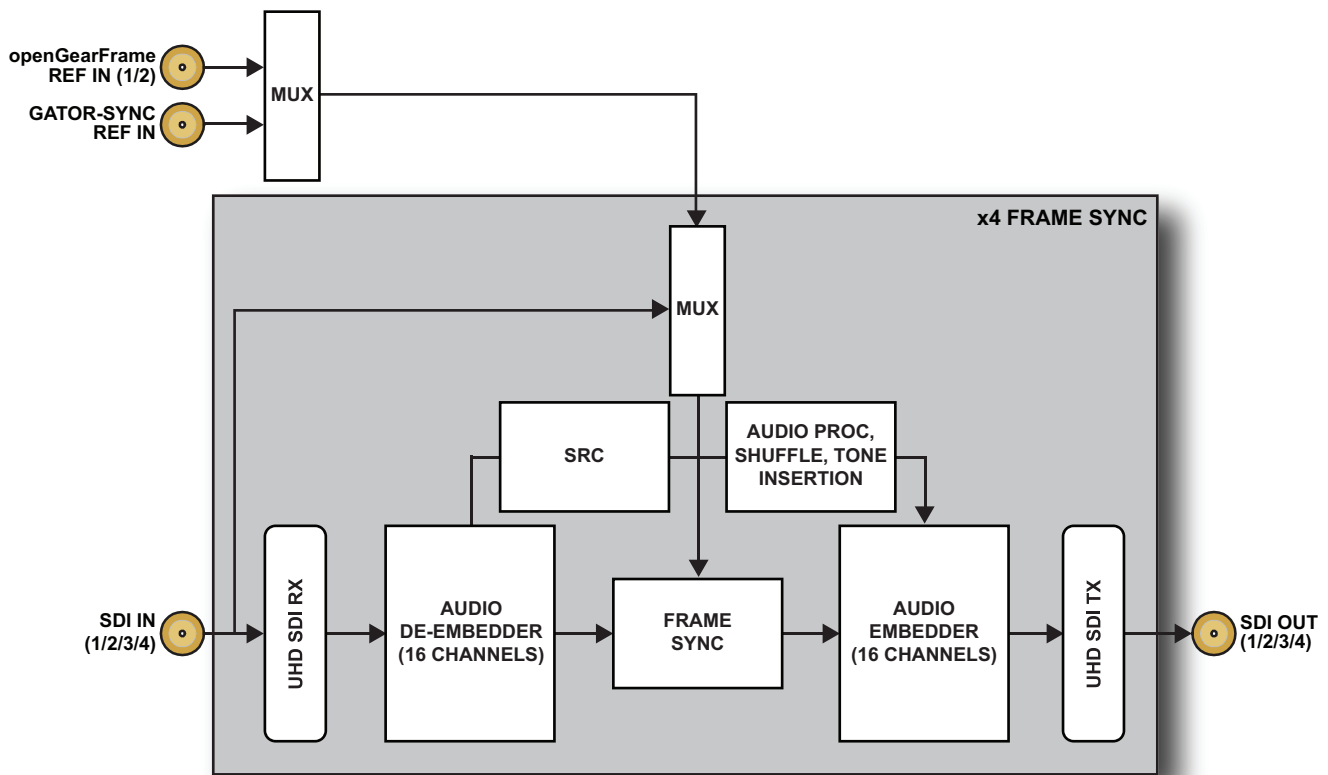

Figure 1 Functional Block Diagram
**Figure 1** provides a general overview of the GATOR-SYNC functions.